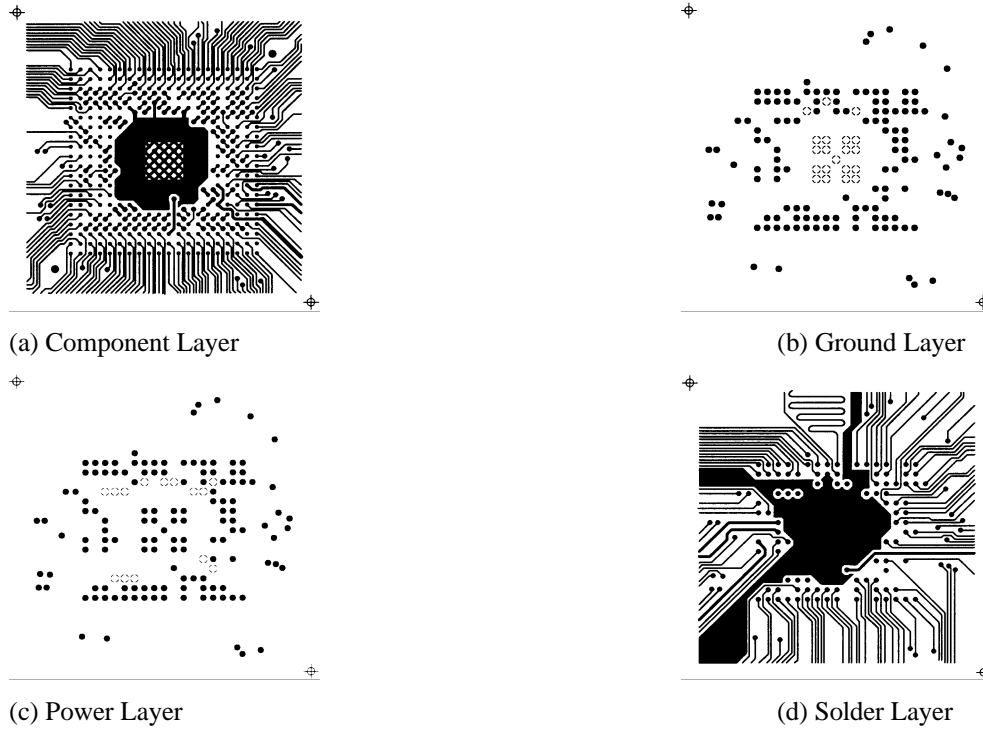

Figure 2-19. VT82C686A Power and Ground Layout
1. In Figure 2-19 (b) and (c), a black round dot represents a via with no connection to the specified layer and a white round dot represents a via with a connection to the specified layer. For example, the white round dots in Figure 2-19 (b) are ground connection vias and the white round dots in Figure 2-19 (c) are VCC3 connection vias.
2. The square-like rail in the center area of the VT82C686A chip on the component layer in Figure 2-19 (a) connects to ground. The center square-like block representing an unused routing area connects to ground in Figure 2-19 (d).